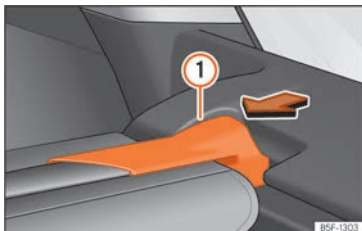

Fig. 127 In the luggage compartment: removing the shelf.
- Press the rear shelf support »» Fig. 127 ① in the direction of the arrow.
- Engage the support of the rear shelf »» Fig. 127 ① into the housing on the other side.